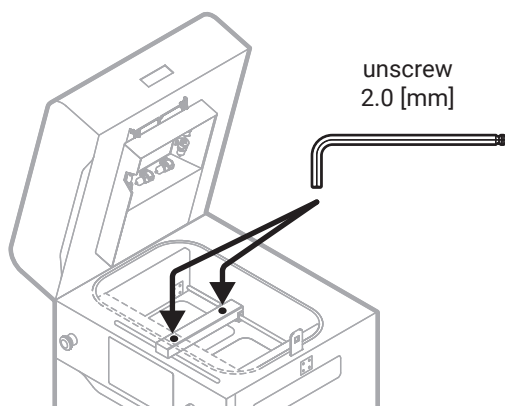

Fig. 1 Removing the screws from the Recoater cover.
6. Using a 2 mm allen key, unscrew both screws on the Recoater cover (fig. 1).